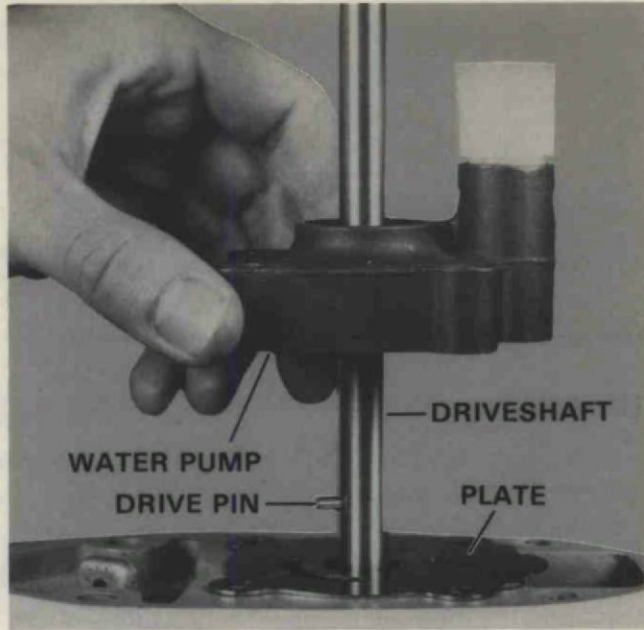

Figure 19. Removing Water Pump.
- A. Remove four (4) hex screws securing pump to upper gear housing. Figure 19.